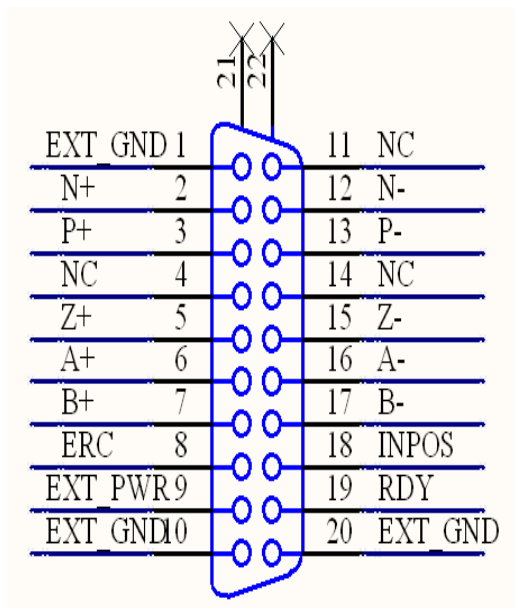

Fig B2-5 Pin definition for CN-XA, CN-YA
■ **CN-XA & CN-YA (Fig B2-5 connector for each AXIS)**
The connectors CN-XA and CN-YA are 20-pin connectors that enable you to connect to the CNA connector of Mitsubishi motor drivers. Fig.B2-5 shows the pin assignment for the 20-pin connector on the DN-8237-MB, and the Table B2-5 shows its I/O connector signal description.